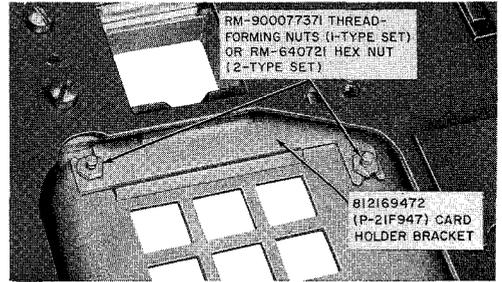

Fig. 29—Card Holder Bracket Installed in TOUCH-TONE Set
- (4) Secure window and number card using the card holder bracket and two nuts (Fig. 29).